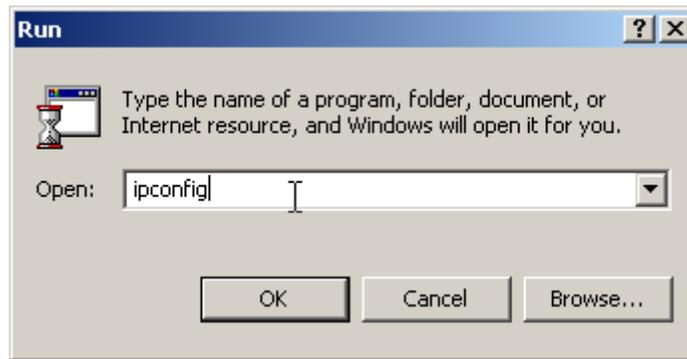

Figure B-4: Run Window
7. Select **Start, Run**, and type **ipconfig** and then select **OK** (Figure B-4). The new IP address for the network interface card will then be configured.